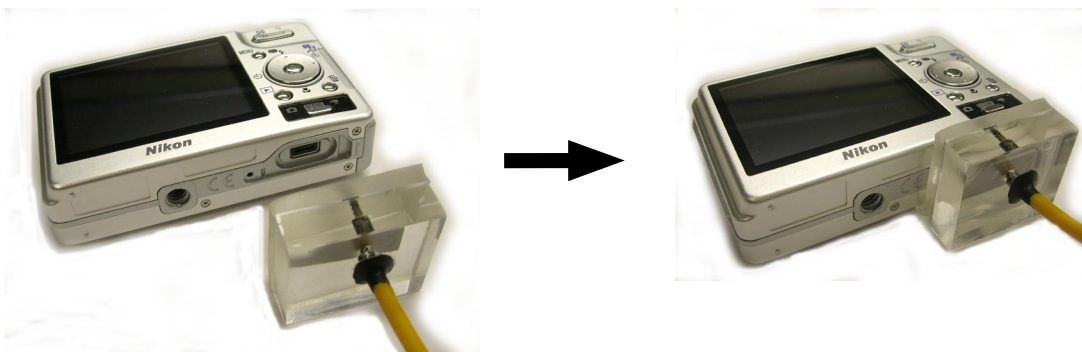

Fig2
3. Attach Tester to Camera. (ref. Fig.2)